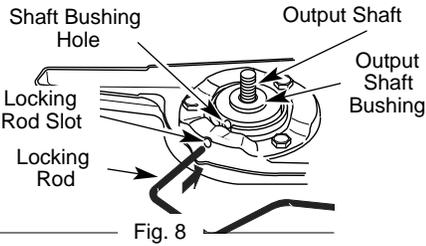
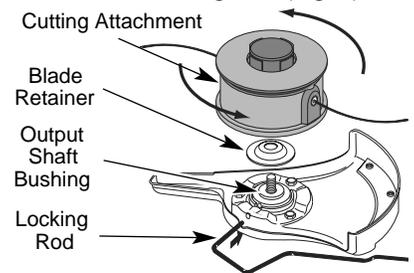

Fig. 8
Fig. 15
1. Align the shaft bushing hole with the locking rod slot and insert the locking rod into the shaft bushing hole (Fig. 8).
6. Align the shaft bushing hole with the locking rod slot and insert the locking rod into the bushing hole (Fig. 8).
1. Align the shaft bushing hole with the locking rod slot and insert the locking rod into the bushing hole (Fig. 8).
5. Align the shaft bushing hole with the locking rod slot and insert the locking rod into the shaft bushing hole (Fig. 8). Place the blade retainer on the output shaft with the flat surface against the output shaft bushing (Fig. 15). Screw the cutting attachment counterclockwise onto the output shaft. Tighten securely.
WARNING: Avoid accidental starting. Make sure you are in the starting position when pulling the starter rope (Fig. 8). To avoid serious injury, the operator and unit must be in a stable position while starting.